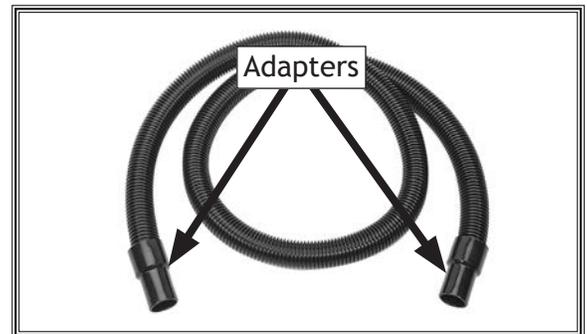

Figure 33. Adapters attached to dust hose.
31. Attach dust hose adapter to each end of dust hose (see **Figure 33**).